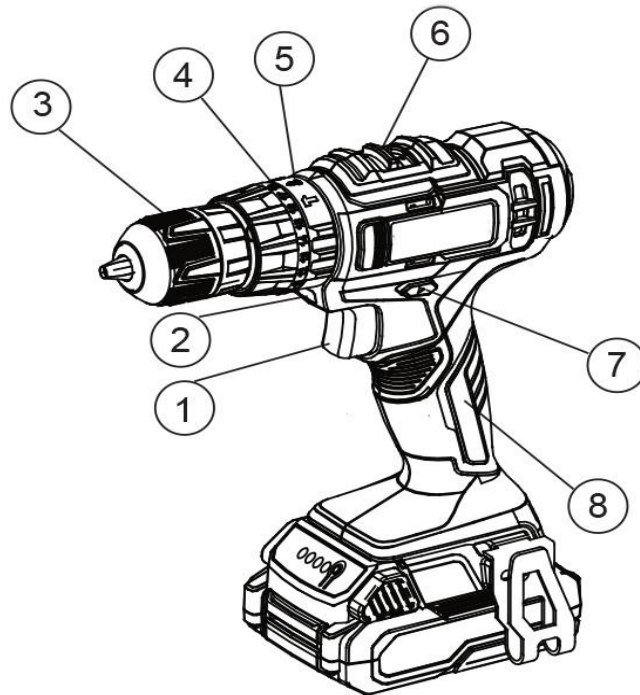

Figure 1: Cordless drill
The control switch (Figure 1, item 7) can be set to three positions:
To start the tool, firmly grasp the handle and press the on/off switch (Figure 1, item 1)